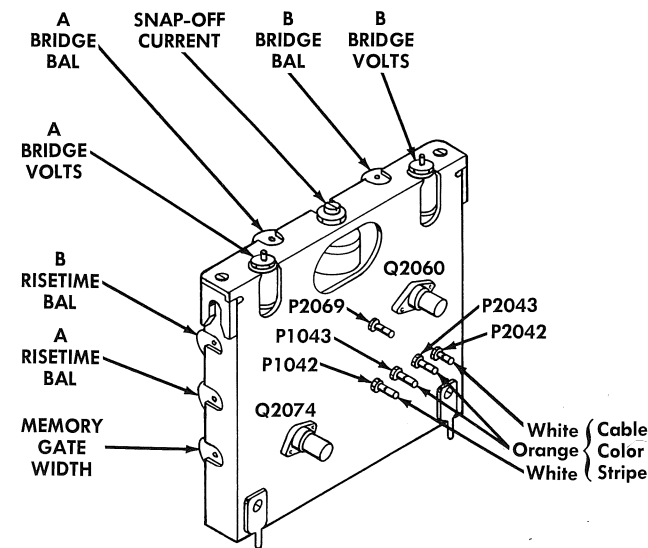

Fig. 5-4. Location of adjustments and connectors on Gate Generator subchassis.
- d. Set the MEMORY GATE WIDTH control (see Fig. 5-4) fully counterclockwise. Then slowly turn it clockwise until the vertical distance between dots of the pulse fall is maximum. (Not display amplitude; watch only dots in pulse fall.) If you continue to turn the MEMORY GATE WIDTH control, an incorrect second maximum may occur. Repeat the adjustment to be sure the MEMORY GATE WIDTH control is adjusted for the first maximum.
- d. If the trace is not centered when the VERT POSITION control is at midrange, adjust the A BRIDGE BALANCE control (Fig. 5-4) to center it.